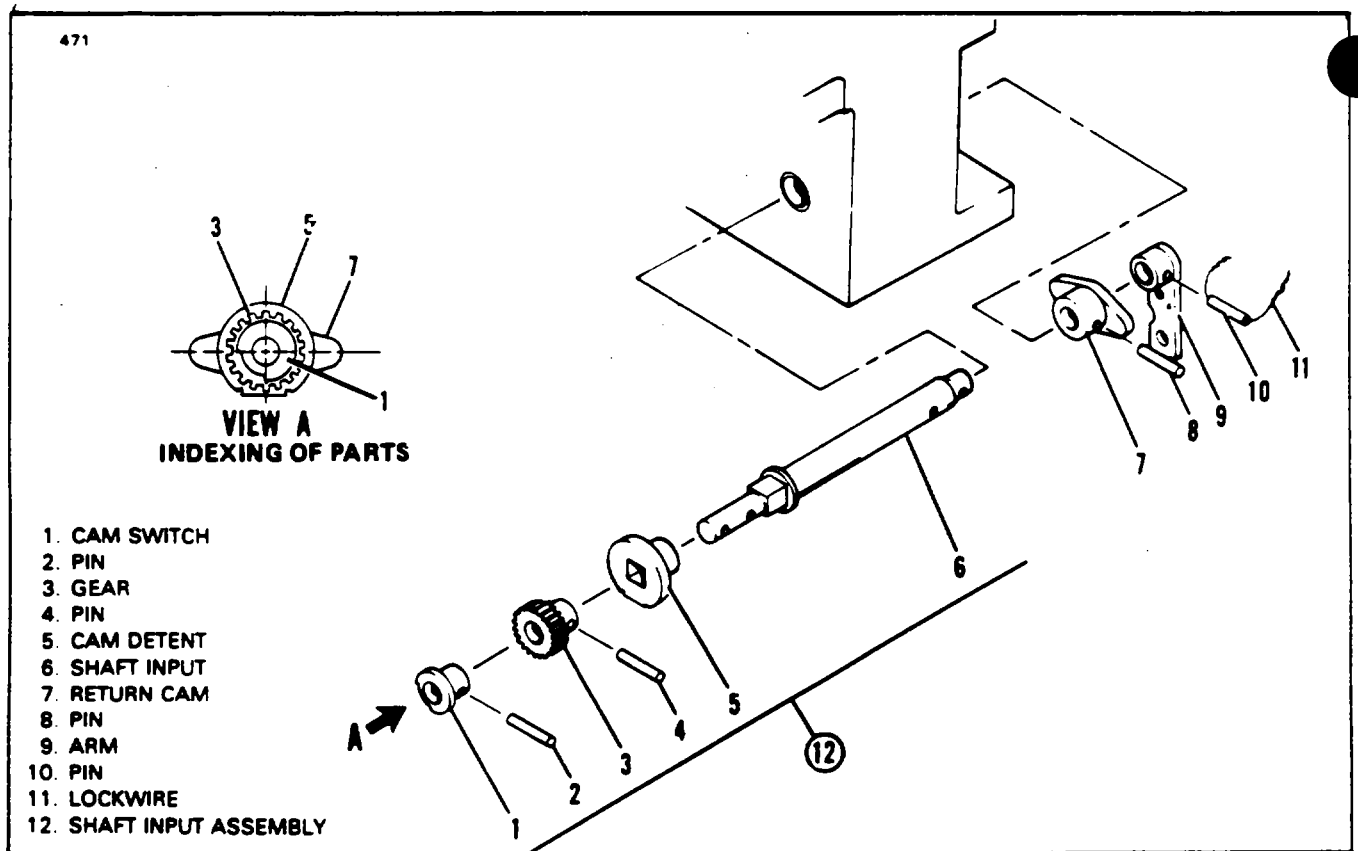

Figure 29-8. Power Pack Handle - Release Mechanism
DISASSEMBLY OF POWER PACK HANDLE RELEASE MECHANISM. (Refer to Figure 29-8.)
ASSEMBLY OF POWER PACK HANDLE RELEASE MECHANISM. (Refer to Figure 29-8.)
1. If the switch cam, the gear and the detent cam were removed from the input shaft, then the parts must be assembled and indexed as shown in Figure 29-8, View "A."